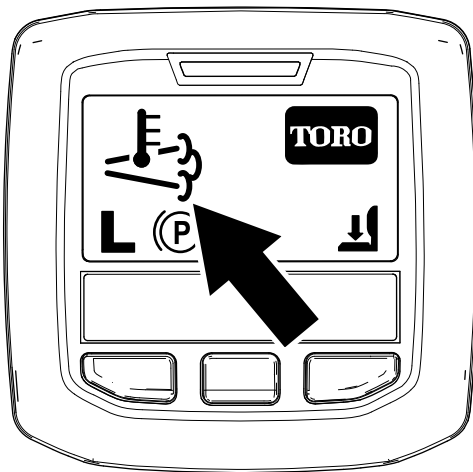

Figure 41
- The high exhaust-temperature icon  displays in the InfoCenter (Figure 41).